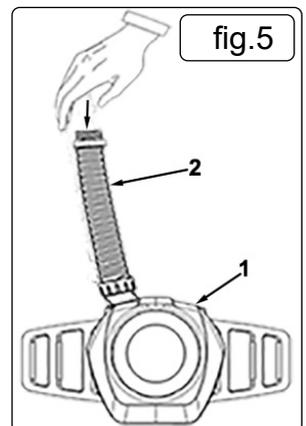

fig.5
4.8.2. Start the blower, SSP80PAPR.H09, (fig 5 - 1) and block the air flow by placing your hand over the open end of the hose assembly, SSP80PAPR.H05, (fig 5 - 2).
4.8.3. Continue to block the air flow (fig 5) until the alarm sounds and the blower begins to vibrate.